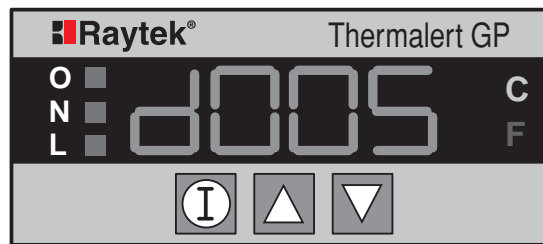

Figure 11: Deadband Display
5. Press the  button once more and a display similar to Figure 11 appears. Use the  or  buttons to adjust the deadband.